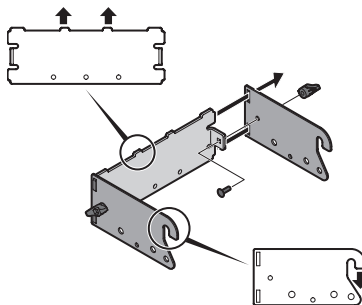

Figure 4
1. Attach the two hitch side brackets to the rear support bracket (rider hitch bracket assembly 689-00304A) using two carriage bolts (710-0276) and wing knobs (720-04122) from hardware pack 689-02364. See Figure 4.
NOTE: Hooks on side brackets should point downwards and tabs on rear support bracket point upwards as shown in Figure 4.